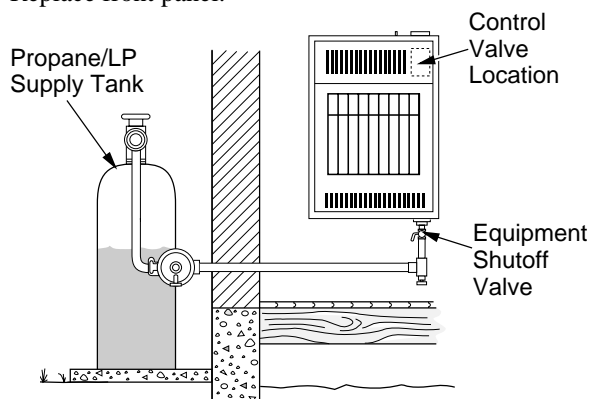

Figure 15 - Checking Gas Joints
3. Check all joints from supply tank to equipment shutoff valve (see Figure 15). Apply a noncorrosive leak detection fluid to all joints. Bubbles forming show a leak.
4. Check all joints from equipment shutoff valve to thermostat gas valve (see Figure 15). Apply a noncorrosive leak detection fluid to all joints. Bubbles forming show a leak.